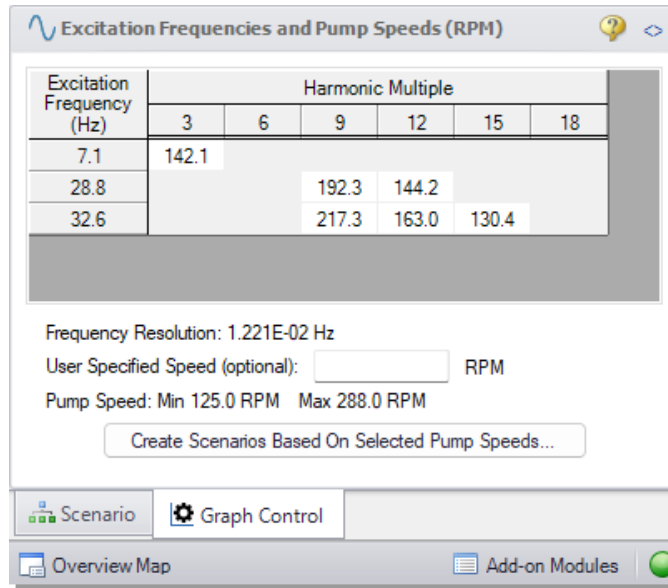

Figure 6.20 Pump RPM Evaluation Panel with Excitation Frequencies and their Harmonic Multiples Displayed in the bottom of the Quick Access Panel
3. Select “Evaluate Excitation Frequency” to add this frequency to the Pump RPM Evaluation panel, which is labeled with “Excitation Frequencies and Pump Speeds (RPM)”. Repeat steps 1 through 3 for the local maxima around the frequencies of 28.8 Hz and 7.1 Hz. The panel should now appear as shown in Figure 6.20.